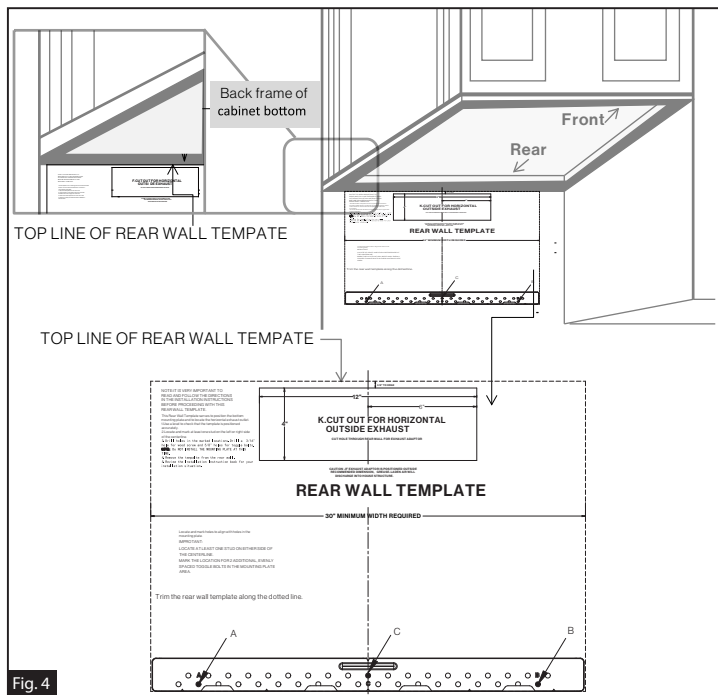

Fig. 4
2. Beneath framed recessed cabinet (Fig. 4)